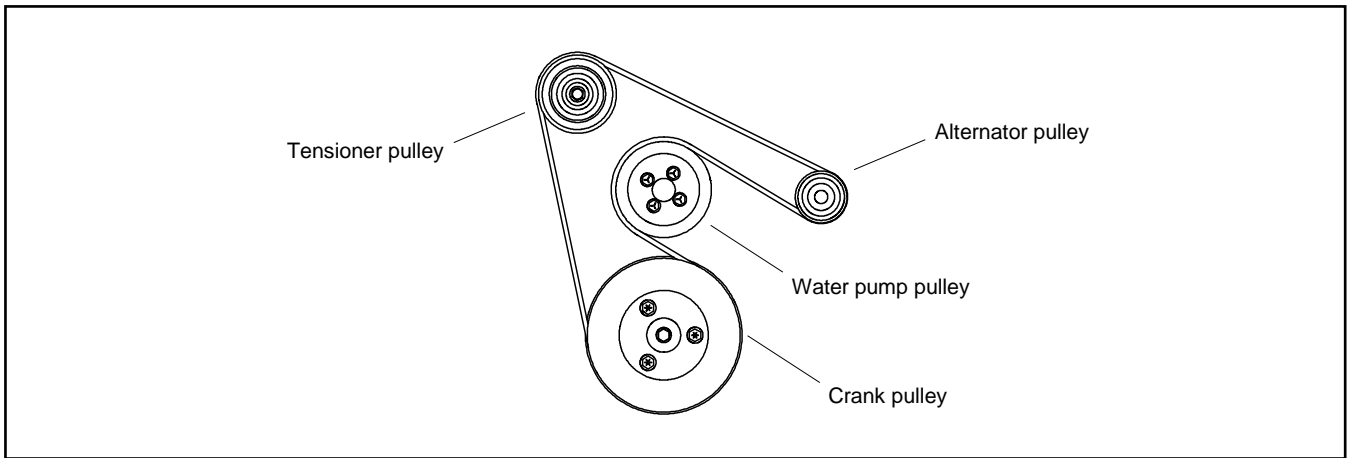

Figure 22 Drive Belt Diagram
3. Route a new drive belt following the diagram shown in Figure 22.